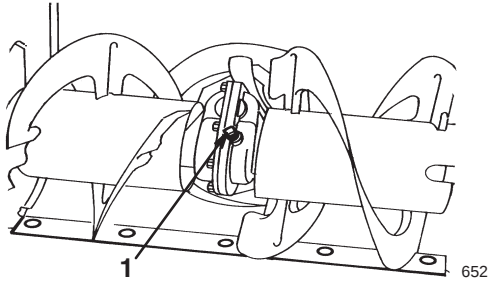

Figure 19
4. Clean the area around the pipe plug (Fig. 19).
5. Remove the pipe plug from the gearbox (Fig. 19).